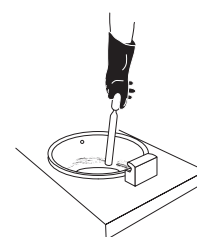

FIGURE 15
9. **Cleaning After Each Round** - scrape crust line from pot with spatula (supplied) (Figure 15). Brush heater coils on the front and back side with the white Teflon brush (supplied). Wipe excess moisture off of fryer lid with a dry towel.
brush heater coils (Figure 15).